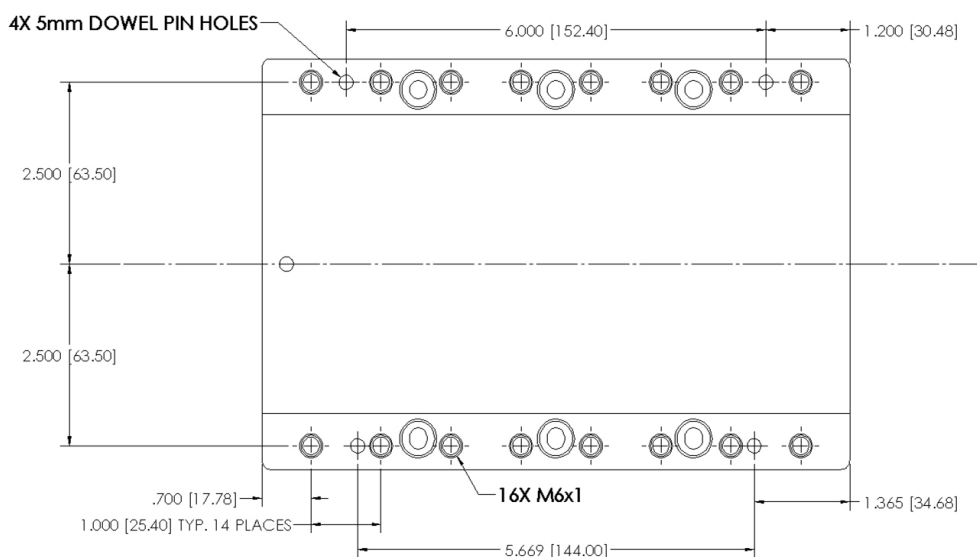

Figure 1: Carriage Bolt Hole Pattern
The bolt pattern on the Carriage has been designed to facilitate process equipment installation. The Carriage has (16) sixteen M6x1 mounting holes with a depth of 0.40 inch (10 mm) to provide secure attachment points. The mounting holes are spaced 5 inches (127 mm) across and on 1 inch (25.4 mm) centers along the length of the Carriage. (See Figure 1) The Carriage also has (4) four 5mm dowel pin holes to facilitate alignment.
(See Figure 1 for location) These dowel pin holes are oversized to allow the pins to be glued into place using Loctite 609, or equivalent. **Only utilize 4 of the M6x1 mounting holes; using more than 4 may cause warping of the carriage.**